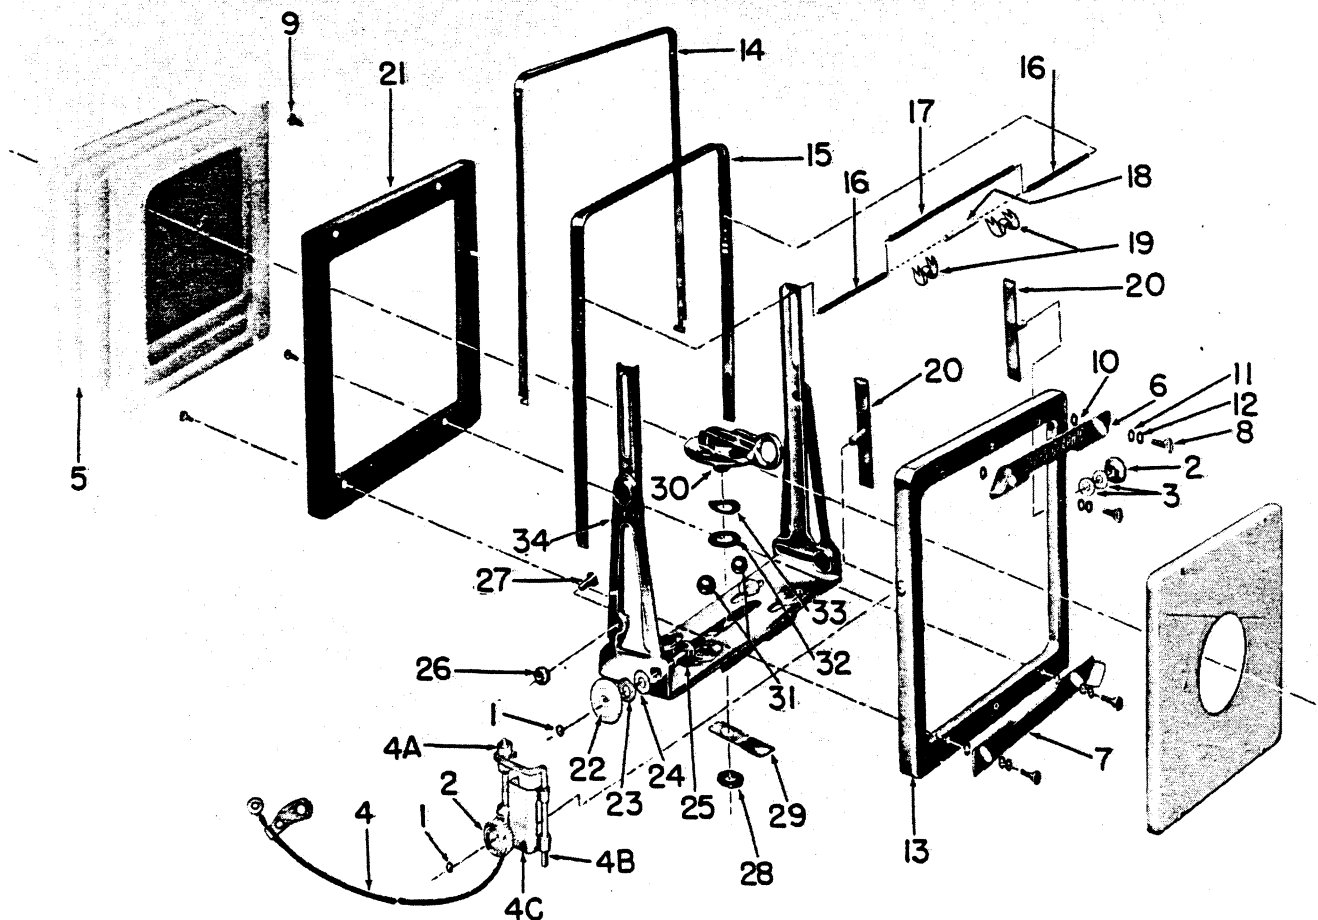

Figure 8. Front Standard
Note: If it is not necessary to remove the bellows assembly (5, figure 8), slide the front standard from the bed and proceed from paragraph C.
(f) To remove the bellows from the frame and support section, remove the lower slide lock (9, fig. 8) that is secured by two slide lock screws (8). Swing the lower edge of the front bellows frame back and drop the upper edge free from the slide lock nut head.
2. Cable Release Assembly, Removal. To replace the cable release assembly (4) proceed as follows:
a. Remove the frame clamp knob (rising front) (2) from the right side of the front standard. Slip the manual trip bracket (4C) from the stud.
a. Remove the knob retaining ring (1, fig. 8), used on early models, from each side of the frame clamp (rising front knob) (2) and unscrew the knob of each side of the frame. Later models have stud threads staked. Remove the upper and lower lensboard lock (6 and 7) that are attached by slide lock screw (8), flat washers (10 and 11) and spring washer (12).
b. Spread the standard support assembly (34) enough to slide the lensboard frame upward and free of the channel.
Key to Figure 8. Front Standard
6. Remove the focusing spring screw (7, fig. 3), and remove the focusing panel (12). Set the camera back on the parallel blocks, pull the front standard forward on the bed against both infinity stops and lock. Check the height with indicator at each corner and adjust the eccentrics (27, fig. 8) or relocate the infinity stop (19 or 20, fig. 1).
3. Inspect the finder (14, figure 8) and finder frame (15) for squareness. If the detent holes of the finder frame (15) have become worn by the finder plungers (16) it will be necessary to replace the finder frame in order to hold in the desired parallax height.
1. Lateral Shift and Lock Lever. To the lever assembly (30, figure 8) assemble the lever assembly spring washer and the flat washer. Fit the two steel balls (31) into their position between the lever assembly (30) and the standard support assembly (34) and thread the lever assembly stud through the standard support assembly. Lay the shift locking spring (29) in position and assemble the special hexagon nut (28).
2. Adjusting Lock Lever. Check the front standard to determine how tightly it will lock, by placing on the sliding yoke of the bed and setting the lock lever (30). It should clamp tightly enough to prevent slippage when the bellows and lens are assembled. To tighten the lock lever, loosen the lock nut (28) on the bottom side and turn the screw in a counter clockwise direction; to loosen the lock, turn the screw in a clockwise direction and then tighten the nut.
3. Lensboard Frame and Sight Reassembly. Lubricate the flat surface of each front frame clamp plate assembly (20) with grease, AN-G-6. Lubricate the sliding areas of the finder (14) and the finder frame (15) with grease, AN-G-6.
a. To the outer front assembly frame (13) assemble the front frame clamp plate assembly (20) on each side. Assemble the finder to the finder frame (15) and lay in position. Assemble the finder spring (18) to the finder lock spring sleeve (17) and insert a finder plunger (16) at each end. Compress the finder plungers and drop into position between the uprights of the finder frame (16). Assemble a finder bracket (19) at each end of the finder lock spring sleeve (17) and center the middle section of the plunger bracket over the hole intended for the slide lock screw (8). Assemble the inner front frame (21) to this assembly and position the upper slide lock nuts to the top rear holes. Position the flat washers (10), lay the upper lensboard lock in position and assemble the slide lock screw (8) that has been fitted with spring washer (12) and flat washer (11).
b. Attach the frame assembly to the bellows by sliding the top edge of the front bellows frame under the slide lock nuts (8). Swing the lower edge of the front bellows frame against the frame and assemble the lower slide lock nuts through the lower bellows frame slots. Assemble the lower lensboard lock (7) and its attaching parts.
c. To assemble the lensboard frame assembly to the standard support assembly (34) spread the upright channels and drop the lensboard frame into position with the threaded studs of the front frame clamp assembly (20) extending through the vertical section. To the stud on the left side, assemble two flat fibre washers (3) and a frame clamp knob (2). Peen the first thread lightly to prevent loss of the knob.
4. Cable Release Replacement. Attach the cable release assembly (4) as follows:
d. Thread the manual trip bracket (4, figure 8) through the bellows hangers and mount the bracket over the right front frame clamp plate stud. Assemble the frame clamp knob (2) and peen the first thread of the stud at one point.
a. The manual trip clamp (16, figure 1) is clamped to the manual trip rod (4B, figure 8) and the relationship of the manual trip clamp to the shutter release lever is adjusted by means of the twin cable release nuts (4A).